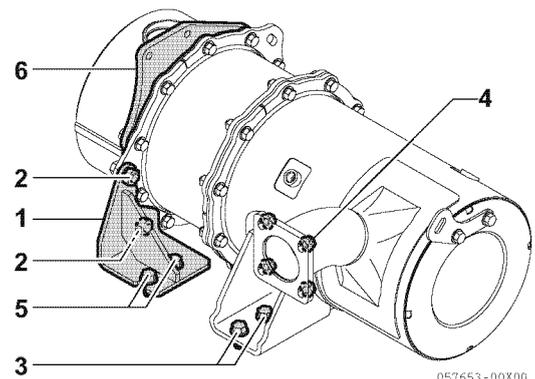

Figure 13-25
- First, slightly loosen the flange bolts (2 pcs.) (2 **Figure 13-25**) that attach the DPF stay (1 **Figure 13-25**) and the stiffener so that these have some play.
- Temporarily tighten the DPF assembly central stay M10 bolts (2 pcs.) (3 **Figure 13-25**).
- Seat the exhaust manifold flange (4 **Figure 13-25**) using M8 flange nuts (4 pcs.), and temporarily tighten.
- Fully tighten the central stay M10 bolts (3 **Figure 13-25**).
- Fully tighten the M10 flange bolts (2 pcs.) (5 **Figure 13-25**) of the DPF stay on the flywheel housing side.
- Fully tighten the DPF stay M8 flange bolts (2 pcs.) (2 **Figure 13-25**).